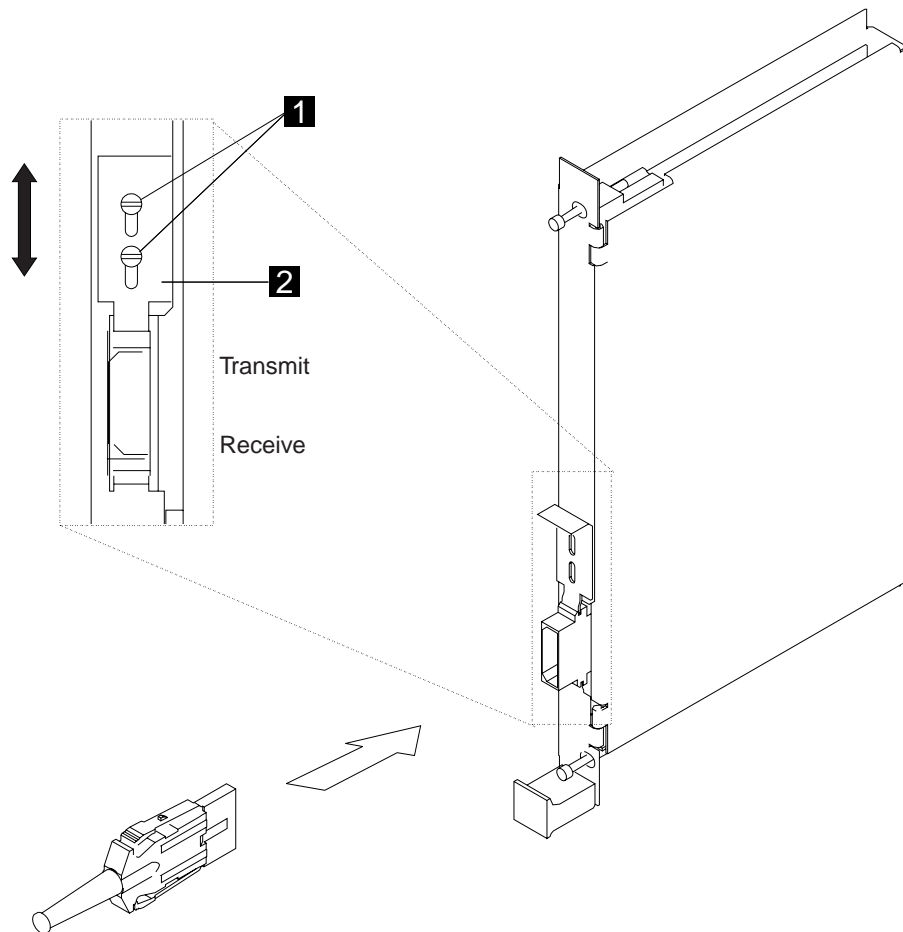

Figure 4-5. ESCA Cable Plugging
- Step a. \_\_\_\_ Route and temporarily plug the ESCON cables of the links to be tested into the ESCC connectors. Install the cables according to the plugging sheets obtained from the customer (refer to Figure 4-5 on page 4-6 and Figure B-8 on page B-6 to locate the connectors).
2. **Obtain the plugging sheets from the customer (prepared using the 3745 Communication Controller Models A and 3746 Models 900 and 950: Physical Planning, GA27-4238) and plug the ESCA cables as follows: (see Figure 4-5)**